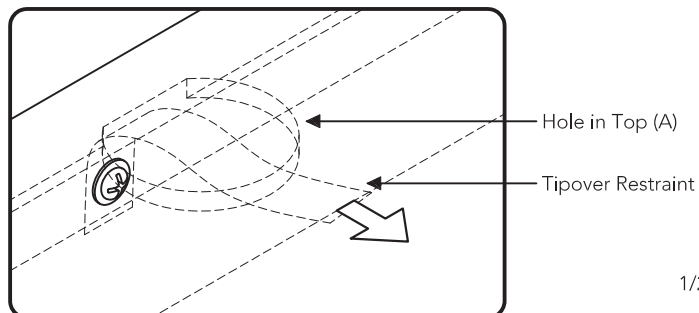

Figure 9
Move unit back into place and insert Tipover Restraint into unit through hole in Top (A). (See Figure 9)